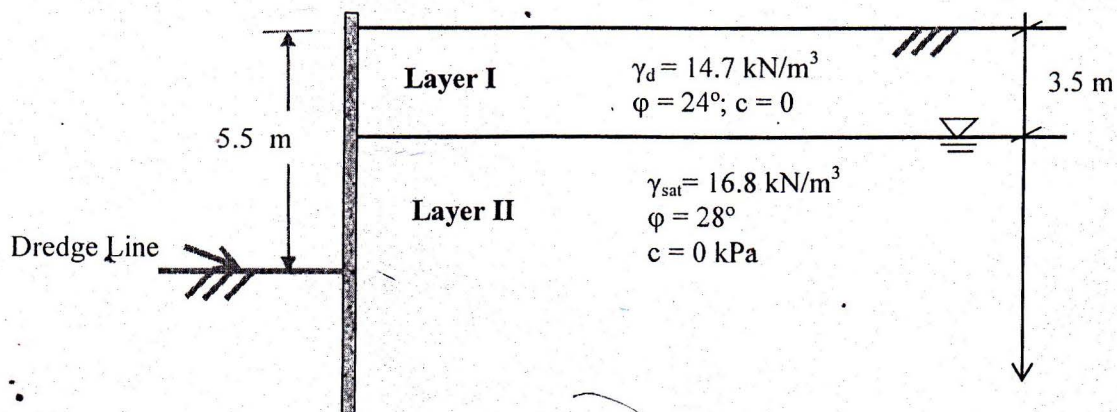

Fig.1
- (a) Compute the magnitude of lateral force (per unit length of the wall) acting on the earth retaining structure, shown in Fig. 1. Given that the backfill soils push the retaining wall. Consider up to the dredge line. 10